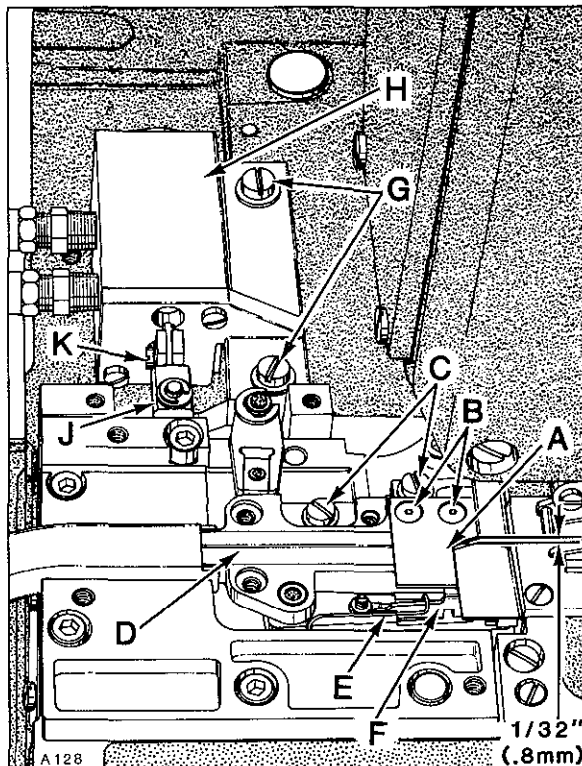

Fig. 25
Upper knife (A, Fig. 25) can be replaced by removing two screws (B). To replace lower knife, the upper knife must be removed and rear suction tube cover. Loosen two screws (C) and slide housing (D) towards the rear. Remove screw (A, Fig. 26) and lift up thread inlet (B). Unhook knife spring (E, Fig. 25) and remove lower knife (F). Reassemble knives in reverse manner. Reassemble thread inlet (B, Fig. 26) and slide housing (D, Fig. 25) forward against rear of throat plate; tighten two screws (C).
IMPORTANT: Be sure that lower knife does NOT strike against knife housing or feed chamber cover. Adjustment should be accomplished by loosening two screws (G, Fig. 25) and reposition air motor (H) left or right slightly, but under extreme circumstances it may become necessary to shorten the stroke of lower knife travel by repositioning coupling (J).
Carefully press against lower knife (F, Fig. 25) until air motor stalls. With treadle still depressed, check the knife cross over. Cross over of lower knife to upper knife is positioned correctly when the lower knife is 1/32 inch (.8mm) from the front of upper knife as shown in Figure 25. If adjustment is required, loosen screw (K) and reposition coupling (J) as required to obtain specified dimension.
Shear angle should be .003 inch (.076mm), measured at rear cutting edge of lower knife (F, Fig. 25) and cutting edge of upper knife (A). Adjustment can be made by loosening nut (A, Fig. 27) and turning screw (B) clockwise to increase the angle or counterclockwise to decrease. Lock nut (A) after shear angle is set.